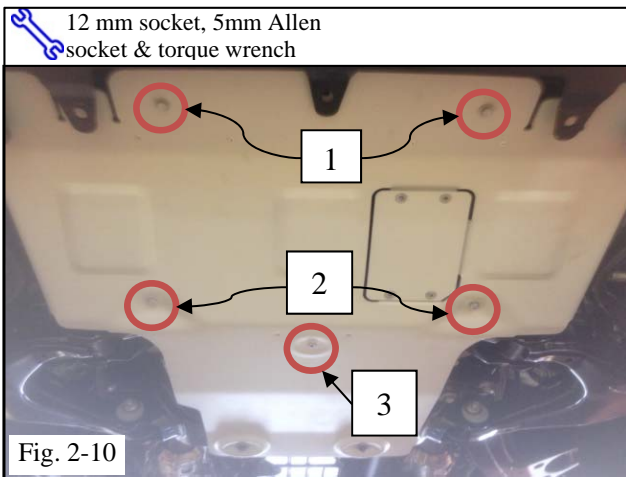

Fig. 2-10
- (1) Use a 12mm socket for Items 1 & 2 (Fig. 2-10).
- (2) Use a 5mm Allen socket for Item 3 (Fig. 2-10).